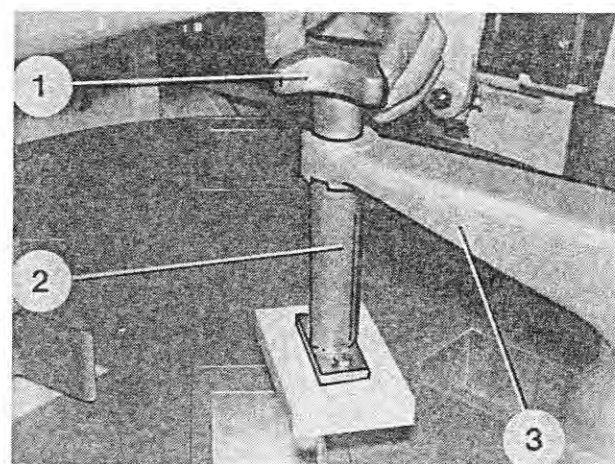

Fig. 151
15. Loosen the star grip (Figure 151/1), which locks the presser, a few turns. Pull the presser (Figure 151/2) down and remove it from the control arm (Figure 151/3).